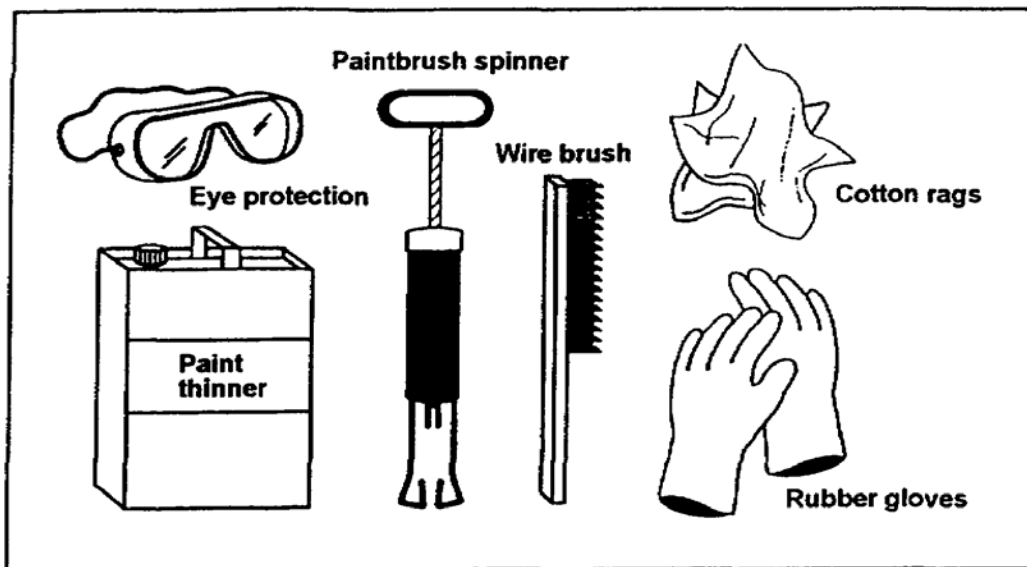

Figure 3-27. Oil-based paint cleaning materials
b. Cleaning. Once material has hardened in a brush, it is extremely difficult to restore the paintbrush to its original pliability, so you should clean paintbrushes immediately after their use. The best paintbrush cleaners are the solvents used to thin coating materials. To clean a paintbrush that was used in oil-based paint, you will need rubber gloves, eye protection (safety glasses or goggles), cotton rags, a wire brush, at least a gallon of paint thinner, and a paintbrush spinner (optional)(Figure 3-27, page 3-24).